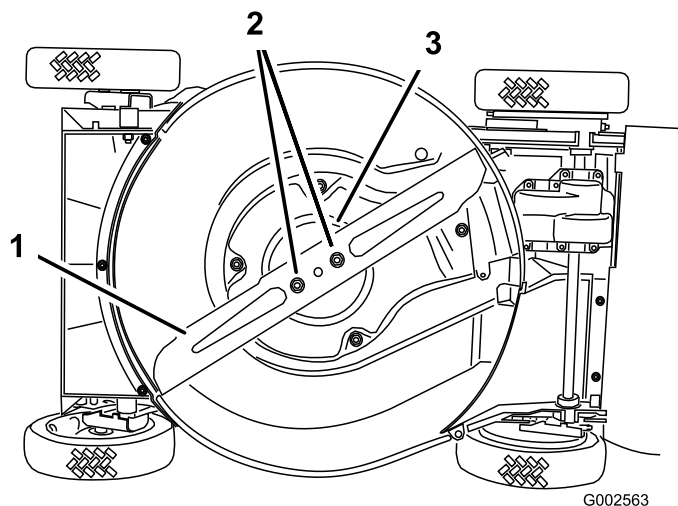

Figure 30
4. Tip the mower onto its **right** side (Figure 30).
Grasp the end of the blade using a rag or a thickly padded glove. Remove the blade nuts, the anti-scalp cup, and the blade (Figure 30).
5. Remove 2 blade nuts, the anti-scalp cup, and the blade (Figure 30).